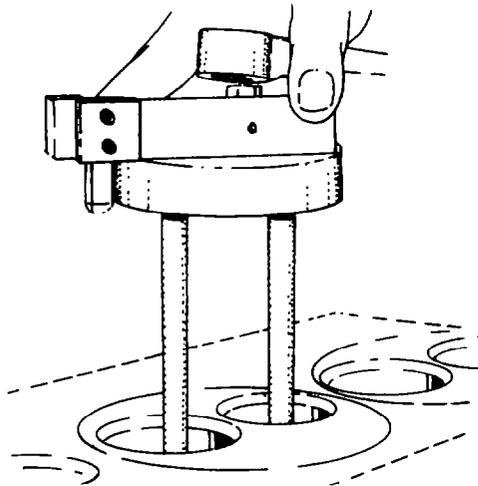

Fig. 24 — Installing Cutting Tool
- b. Remove the tool from the cylinder head and reverse it so that the cutting bit comes in contact with the fire ring groove (see fig. 24).